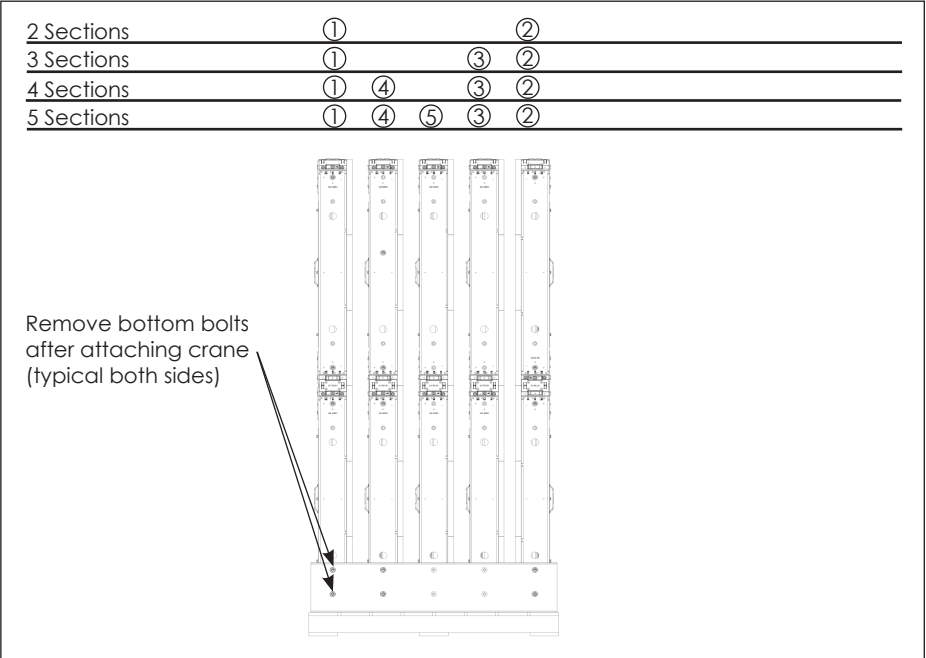

Figure 5: Section Lift Order (Front View)
2. Insert lift eyes in the top of the first display section. Refer to the **DVX/DVS-32XX Series Section Basics Quick Guide (DD5549384)**. Attach the crane to the lift points. Refer to **Figure 5** for the section lift order and to **Stabilize (p.2)** for proper configurations.